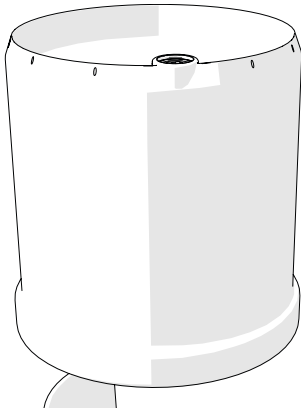

**Figure 13** Temperature needle and ultrasonic transducers
1. Make sure nothing is obscuring the temperature sensor or the sonic transducers shown in Figure 13 (cobwebs, leaves, wasp nests, etc.).
- c. Ultrasonic transducer openings (Figure 13)
- **DO NOT** touch the temperature sensor needle (Figure 13).
- Avoid more than light pressure on the sonic transducers (Figure 13).
**NOTE:** Do not allow water to enter the ultrasonic sensors (Figure 13). Water may corrode the metal parts inside the sensors and ruin them. Do not touch the temperature sensor when cleaning because it is very delicate and can be damaged if pushed into the ATMOS 41 body.